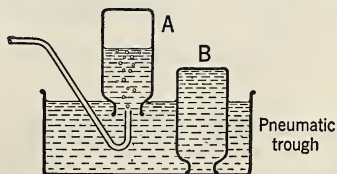

FIG. 79. In the laboratory gases may be collected by water displacement.
14. Fill a bottle with water, cover it with a glass plate, and invert it in a pan of water. (See Fig. 79.) Why does not the water flow out of the bottle when the glass plate is removed? Put one end of a glass tube under the mouth of the bottle and blow through the tube. Why does the air rise in the bottle? Why does the water flow out of the bottle as the air enters? Gases are often collected in this way in a chemical laboratory. This method is called "water displacement."